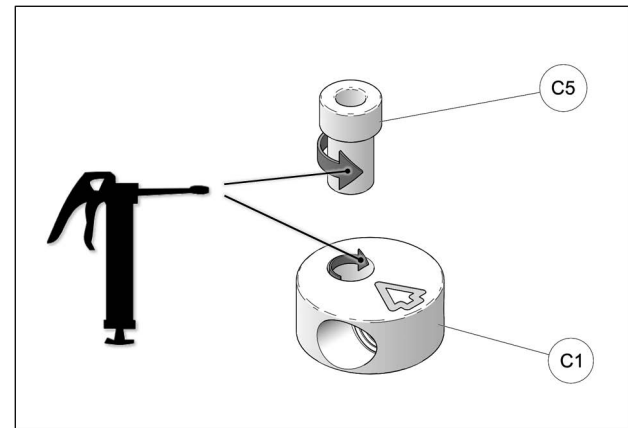

Fig. 28
17. Apply grease evenly all around step spacer bushing (C5) and in hole of aluminum disk (C1) when assembling these parts together. See Fig. 28